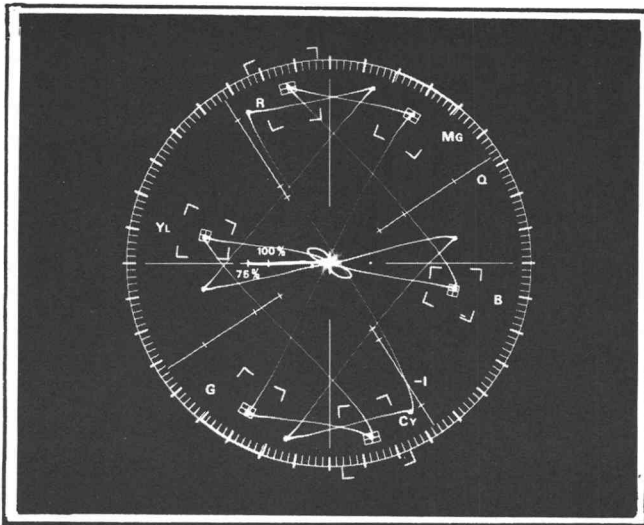

Fig. 2-15. Vector presentation of color bar test signal showing ALT R-Y PHASE.
12. Change the Type R140 SYNCHRONIZATION R-Y PHASE lever switch to the ALT position. This alternates the phase of the R-Y subcarrier between 90° and 270° at the H-rate. See Fig. 2-15. Return the R-Y PHASE lever switch to the 90° position.